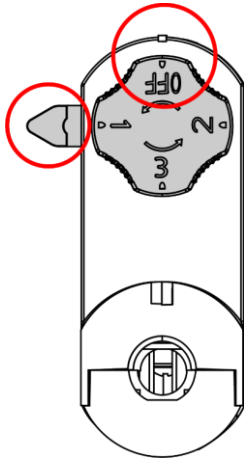

Fig. 06
- 02) Make sure that the **circuit selector (05)** is in OFF position and the **track lock (06)** is in unlocked position, as shown in Fig. 06.